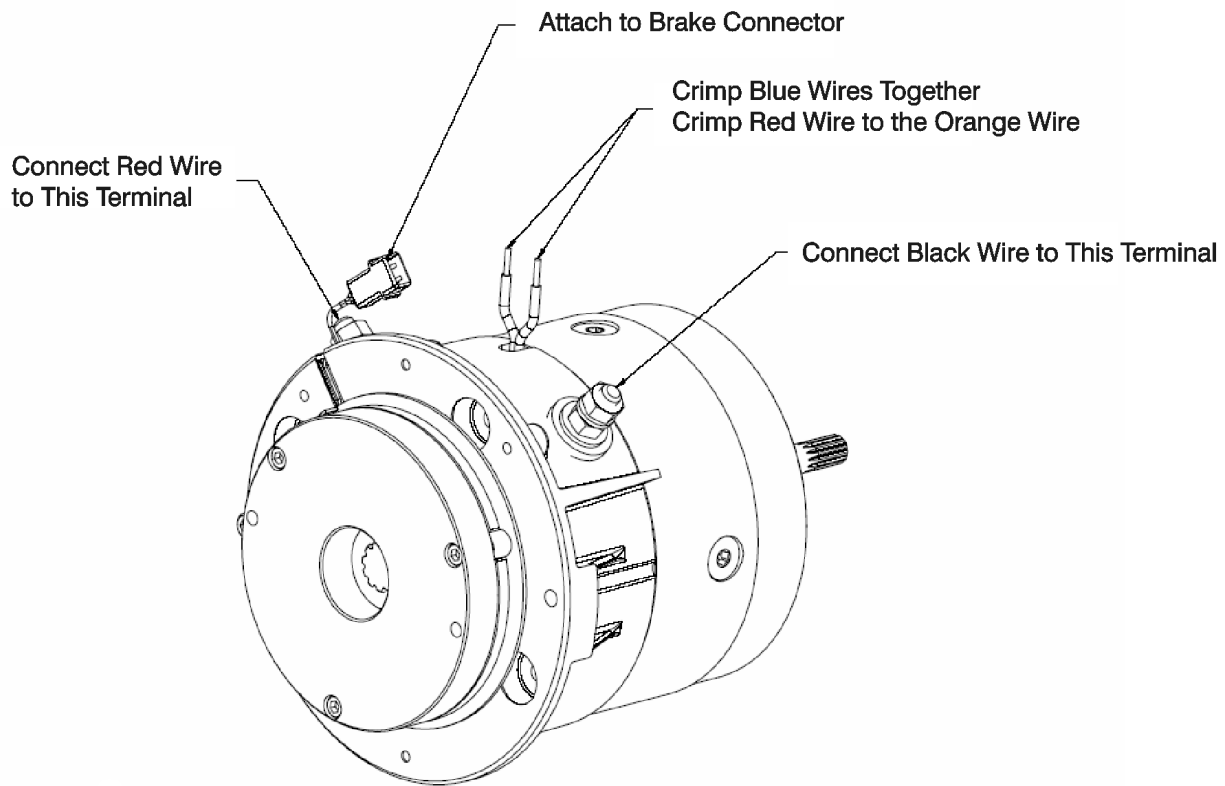

Figure 3-27. Wire Harness Connections
1. After inspection and servicing, reassemble the wiring in the Commutator End Head (9) as originally found. Ensure the wiring does not contact metal parts and that it allows the brushes to move unrestricted in the holders. Motor terminals must be assembled as shown Figure 3-27. Torque bottom terminal nut to 110 - 140 in-lb (12.4 - 15.8 Nm).